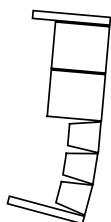

Fig. 33: Securing the array using a second Q Flying frame
- **Arrays with more than three cabinets have to be secured using a second Q Flying frame at the bottom of the column. Wires or ropes have to be connected to the Q Flying frame and not to the cabinets rigging sockets (Fig. 33).**